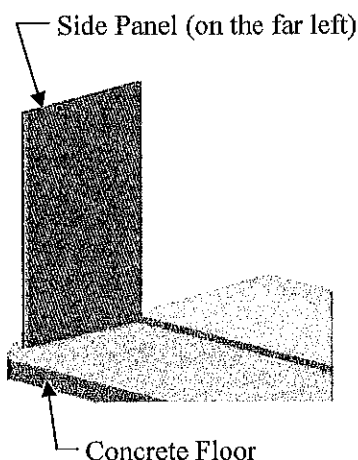
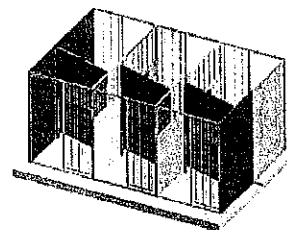

Figure 3
Figure 10
1. Set the first Side Panel (with King Post attached) on the left side of the concrete floor. Be sure the bottom of the panel slopes from the front to back of the Kennel. Have a helper hold it in place (**Figure 3**).
6. Begin assembling the second section of kennels, starting from the left side with a King Post and a Side Panel as shown in the (**Figure 10**), just like the first row, now follow (**Figures 3 thru 8**) again to complete the second section.